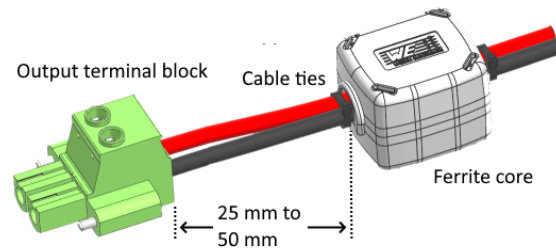

Figure 3-10: Clamp ferrite core on cable
7. Add a ferrite core on the output cable to reduce the electronics noise and suppress high-frequency signals on the cable. Clamp the ferrite core on the cable about 25 mm to 50 mm away from the output terminal block as shown in Figure 3-10. Attach two cable ties on both sides of the ferrite core to secure the position on the cable.